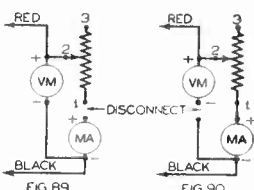

FIG. 89
2. Disconnect the wire temporarily from the plus terminal of the milliammeter as shown in Figure 89. Only the first meter is now used for testing voltages. Again hold the test prods on terminals B— and P. Note your reading on the single voltmeter now in use.